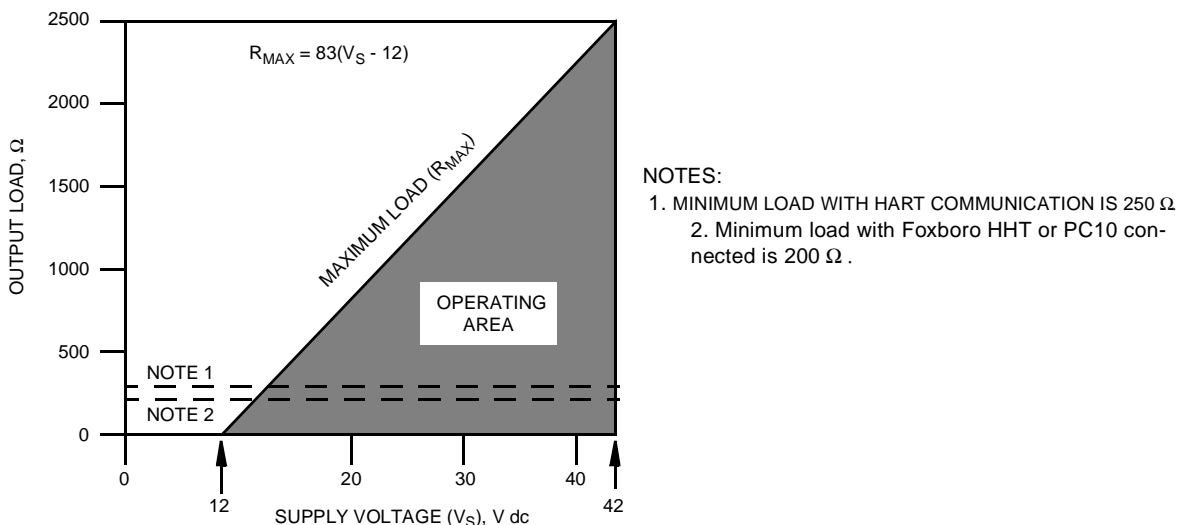

Figure 15. Voltage and Load Limits
When wiring a transmitter with 4 to 20 mA output signal, the supply voltage and loop load must be within specified limits. The supply voltage vs. output load relationship is shown in Figure 15. Any combination of supply voltage and loop load resistance in the shaded area can be used. To determine the loop load resistance (transmitter output load), add the series resistance of each component in the loop, excluding the transmitter.
1. Connect the transmitter to a 24 V dc power supply (see Figure 15 for allowable power supply voltage and output load limitations).